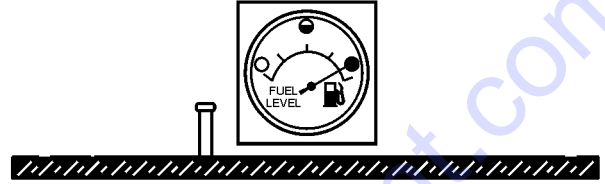

Figure 21. Full Fuel Tank
- NEVER overfill fuel tank** — It is important to read the fuel gauge when filling trailer fuel tank. **DO NOT** wait for fuel to rise in filler neck (Figure 21).